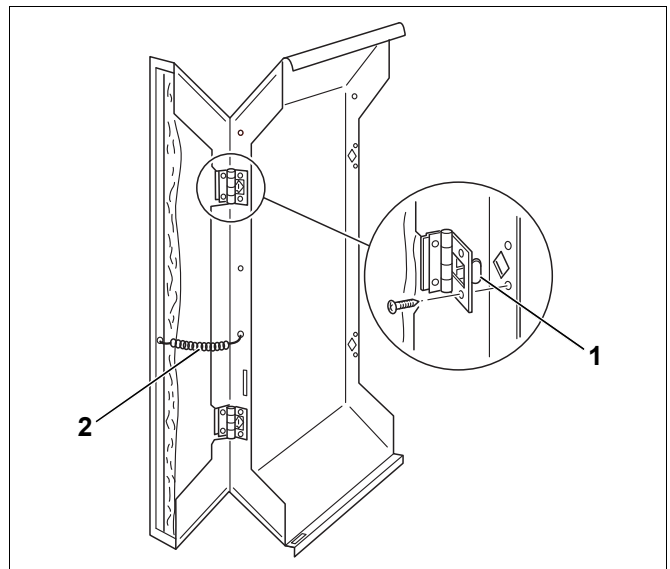

Fig. 49 Install the hinged covers to the side panels
- Hook the hinge hooks (Fig. 49, **[1]**) on the hinged cover of the side panel into the cut-out of the front side panel and secure with self-tapping screws.
- Hook the tensioning spring (Fig. 49, **[2]**) into the side panel and the hinged cover of the side panel.